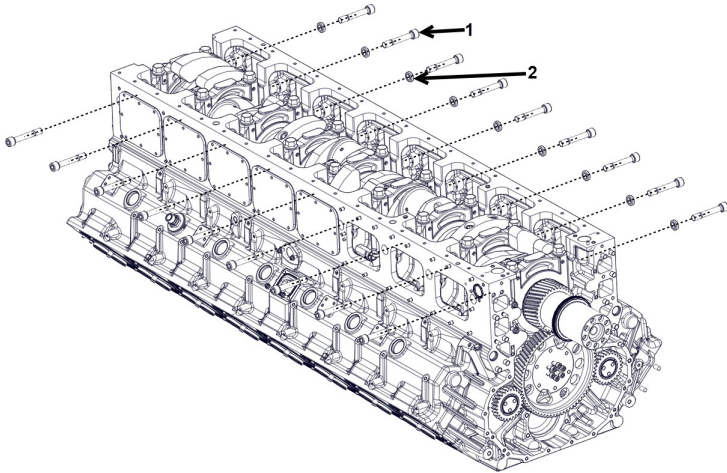

Figure 103.
1. Loosen and remove the main bearing cap auxiliary bolts (Figure 103, Item 1) and washers (Figure 103, Item 2).